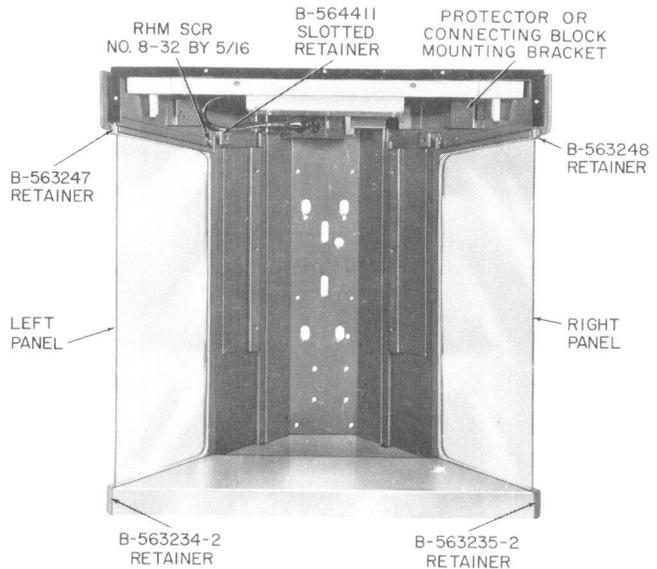

Fig. 7—KS-19426, L1 Housing Showing Installation of Panels
2.09 Side Panels: Install panels as follows (Fig. 7):
- 2.37 If station protection is required, install 123A1A protector on the bracket provided in the rear of housing (Fig. 7) and terminate station wiring on this protector.